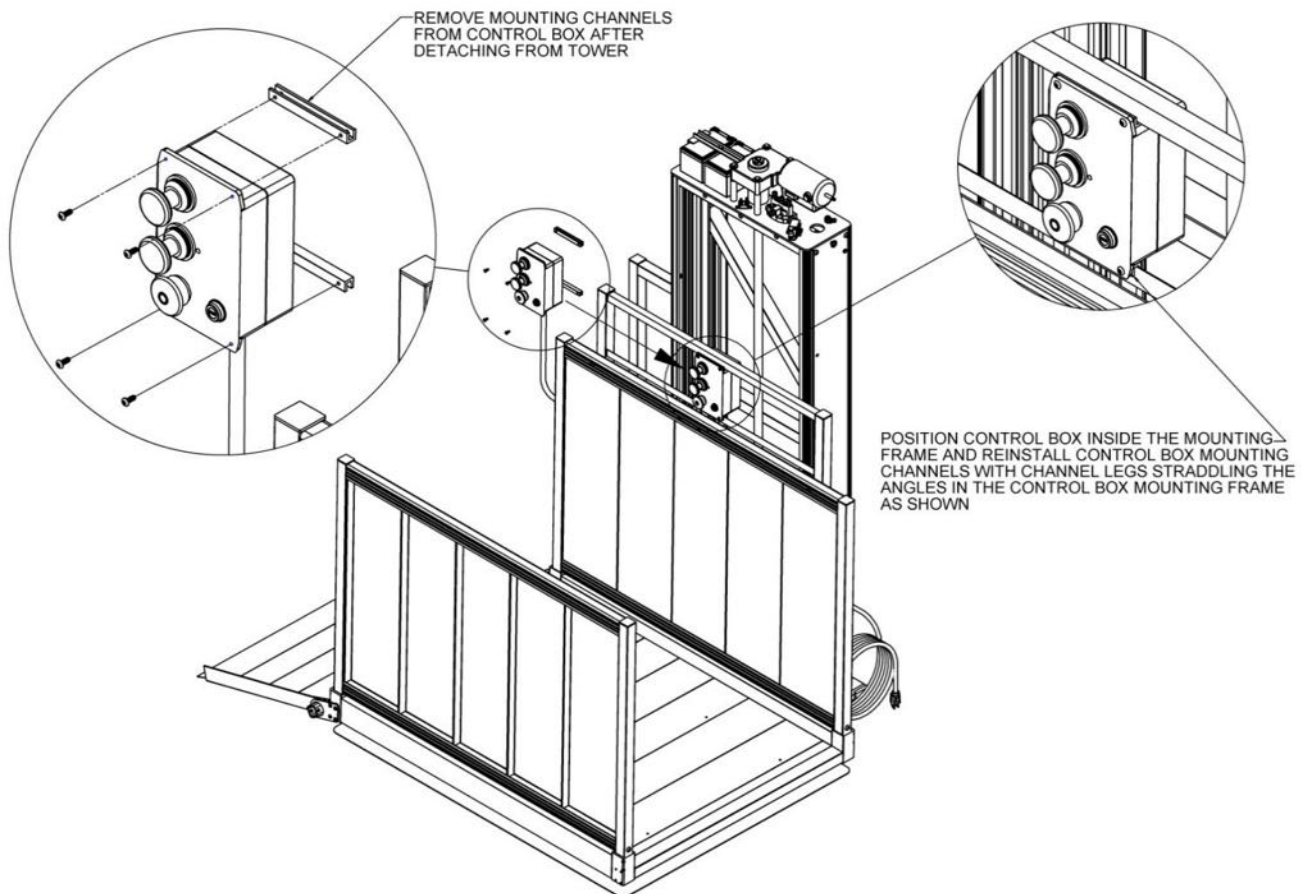

FIG. 4.9
12. Install control box mounting frame to rear guard wall by first removing nuts and bolts from control box mounting frame posts (FIG. 4.9).
13. The control box is secured to inside of tower with zip ties. Locate and cut the zip ties to free the control box (FIG. 4.9).